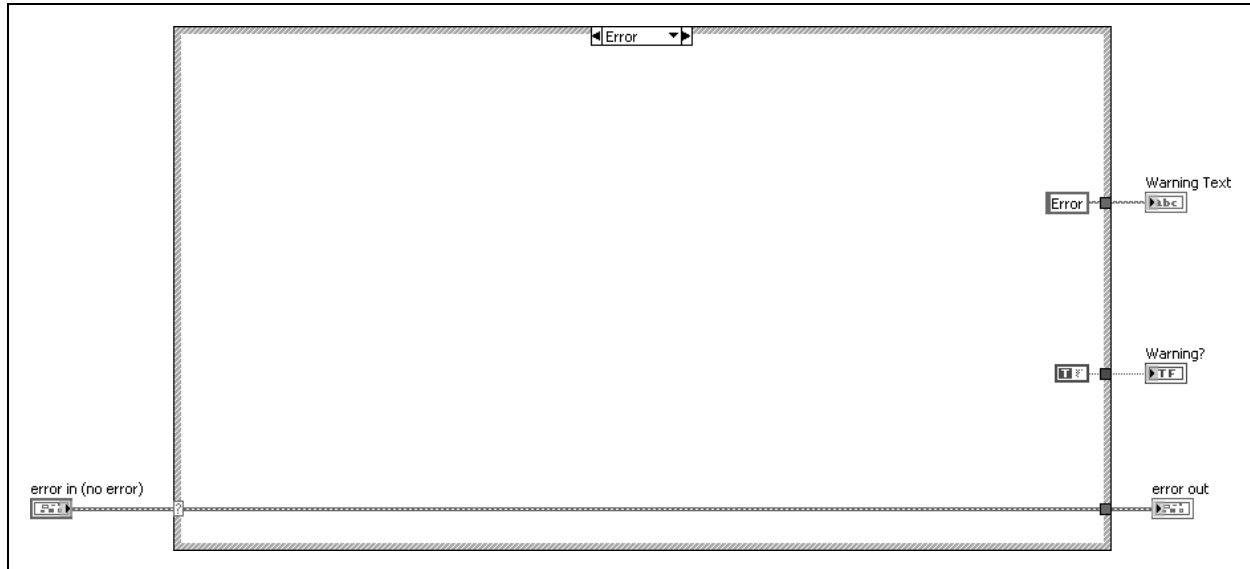

Figure 7-10. Error Case of Determine Warnings VI
- Confirm that you have completed the Error case as shown in Figure 7-10.